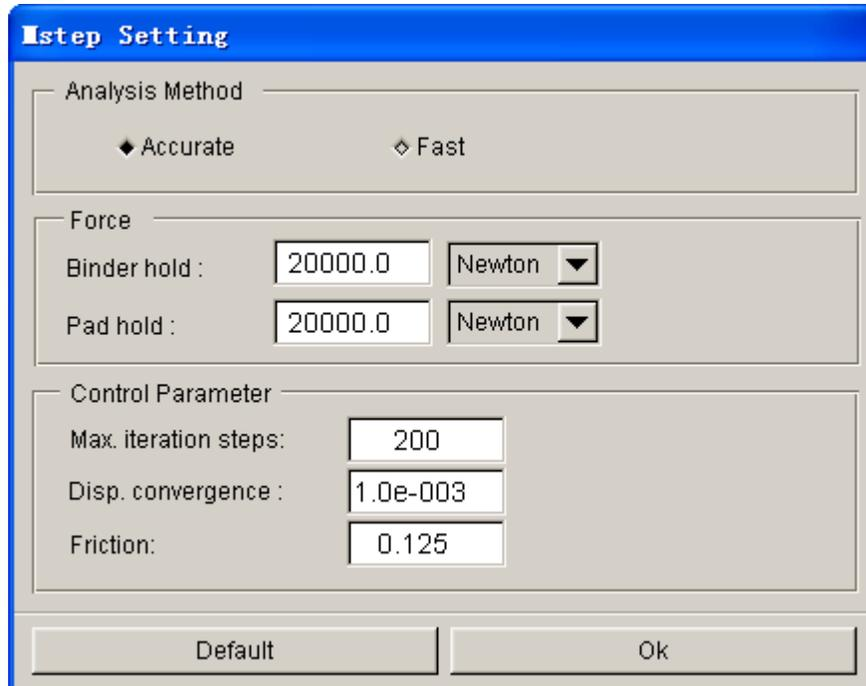

Figure 7.2.2 MSTEP Setting
**ADVANCED:** Allow the user to edit default parameters related to MESEP setting illustrated in Figure 7.2.2.